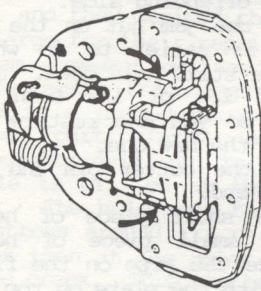

Figure 2. Lubricate with Gleitmo 540.
2. Check that the yoke can slide freely in its grooves in the brake housing. Lubricate with Gleitmo 540 (P/N 30-08-612) as shown in Figure 2. Do not overlook this important step as vibration in the yoke can cause brake squeal.